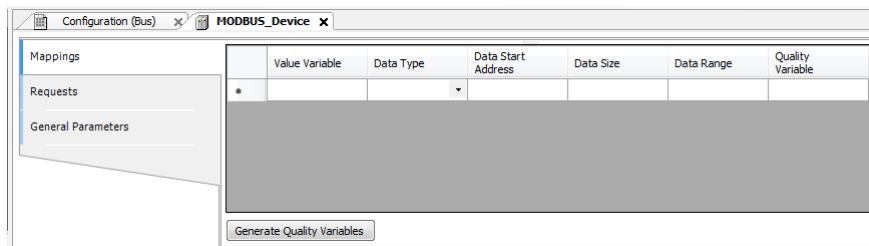

Figure 64: MODBUS Data Mappings Screen
- Add and configure the MODBUS mappings on Mappings tab as Figure 64, specifying the variable name, data type, and the data initial address, the data size and range are filled automatically.